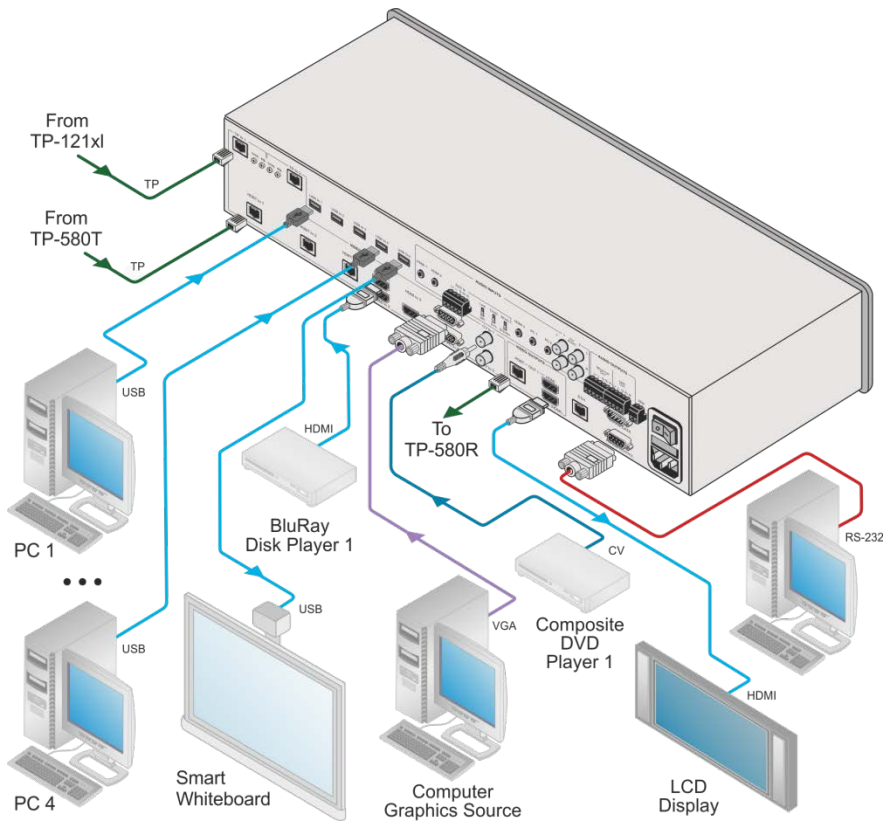

Figure 3: Connecting the VP-553 Presentation Switcher / Scaler
To connect the **VP-553**, as illustrated in the example in Figure 3, do the following:
7. Connect the audio inputs (not shown in Figure 3) to the:
8. Connect an external audio source to the AUX IN 5-pin terminal block connector (not shown in Figure 3).